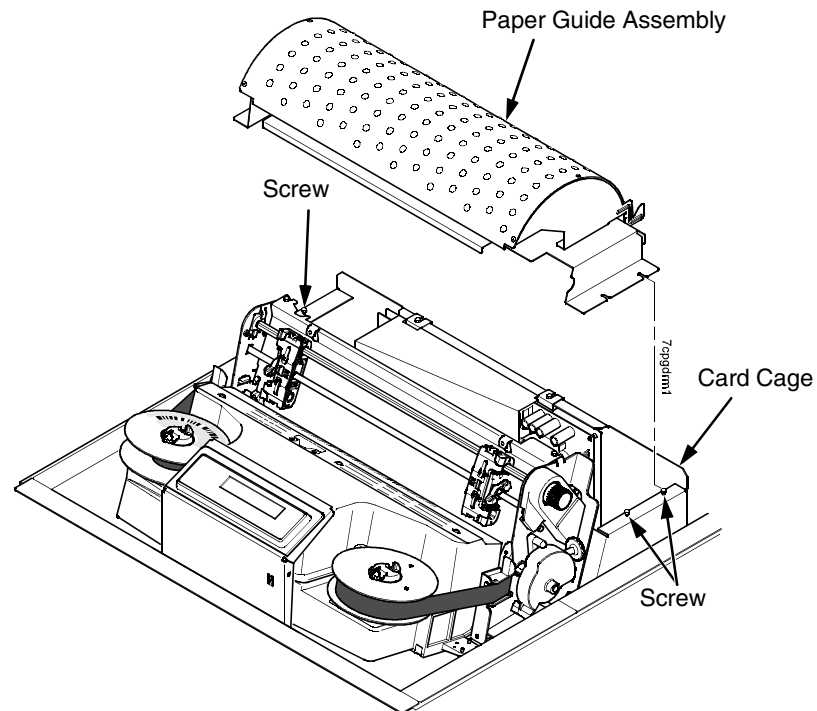

Figure 70. This figure shows how to remove the paper guide assembly from the card cage.
4. Loosen—do not remove—the three screws that secure the paper guide assembly. Slide the paper guide assembly to the left and lift it off the card cage. (Figure 70.)